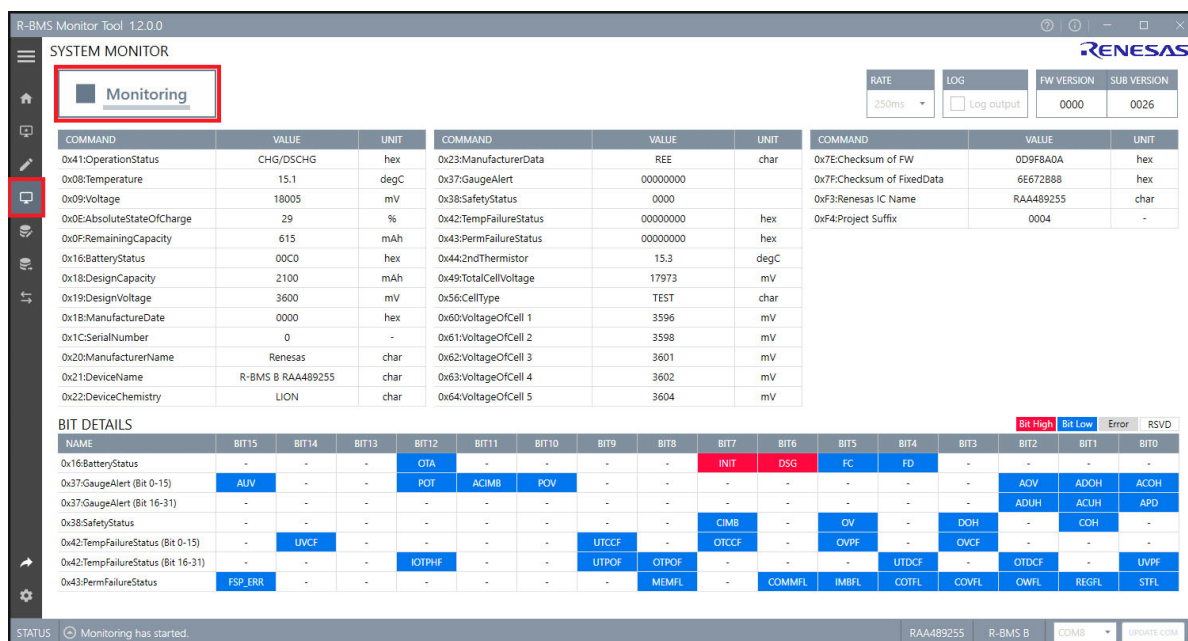

Figure 8. SYSTEM MONITOR Screen in R-BMS Monitor Tool GUI
10. In the R-BMS Monitor Tool GUI, ensure that in **TOOL SETTINGS** the selected operation mode is **BMIC + MCU** and then go to **DATA MONITOR** section and click on the **Monitoring** button. The GUI starts reading the SMBus registers and displays the system status and data (see Figure 8). When no current is flowing to or from the battery pack, the system enters Sleep mode after a short time (4s by default).
9. In the R-BMS Monitor Tool GUI, ensure that in **TOOL SETTINGS** the selected operation mode is **BMIC + MCU** and then go to the **DATA MONITOR** section and click on the **Monitoring** button. The GUI starts reading the SMBus registers and displays the system status and data (see Figure 8). When no current is flowing to or from the battery pack, the system enters Sleep mode after a short time (4s by default).